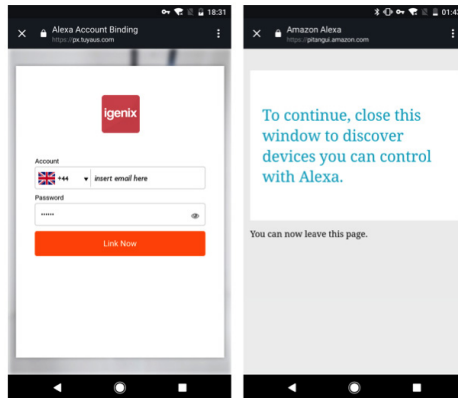

fig.19
- Type in your Igenix account and password and then tap “Link Now” to link your Igenix account (fig.19)